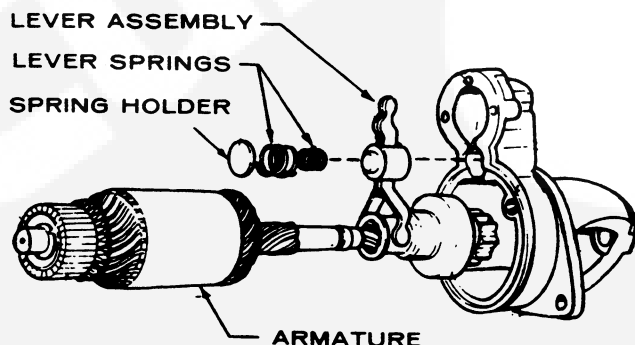

FIGURE 42. REMOVING ARMATURE FROM SOLENOID SHIFT STARTER
4. **Solenoid Starter Only:** The armature can now be removed from the front bracket. Be careful not to miss the small steel washer used in the end of the armature shaft. Remove the shift lever at the same time the armature is removed. The spring holder, lever springs and retainer can be removed prior to the lever, Figure 42.